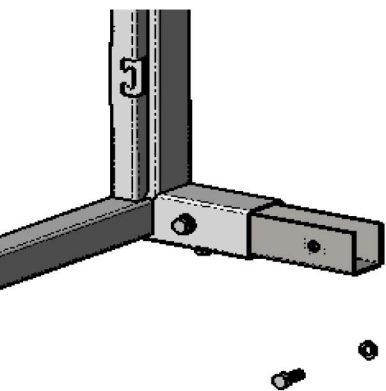
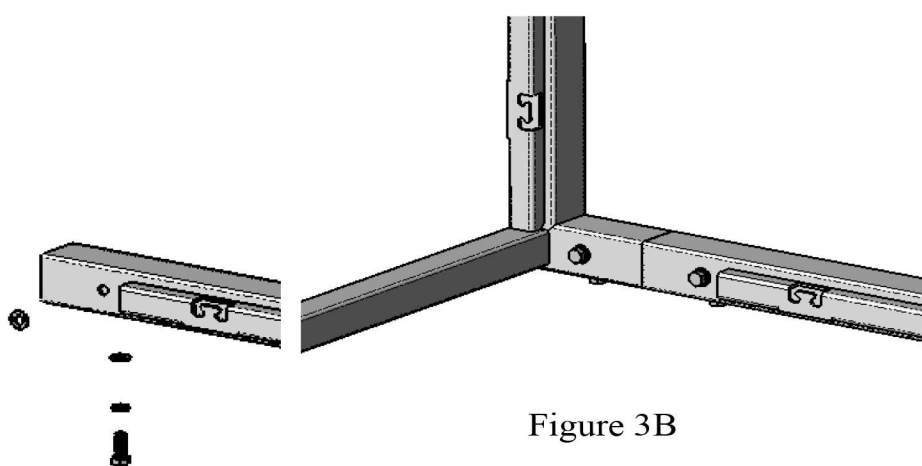

Figure 3A
Figure 3B
3. Connect the end frames to the crossbar by sliding the crossbar over the channel (Fig. 3A), make sure all net clips are facing toward the inside of the goal. Using (2) 3/8"–16 x 1" bolts, (2) 3/8" lock washers, (2) 3/8" Flat washers, secure the crossbar to each end frame (Fig. 3B). All bolts can now be tightened.